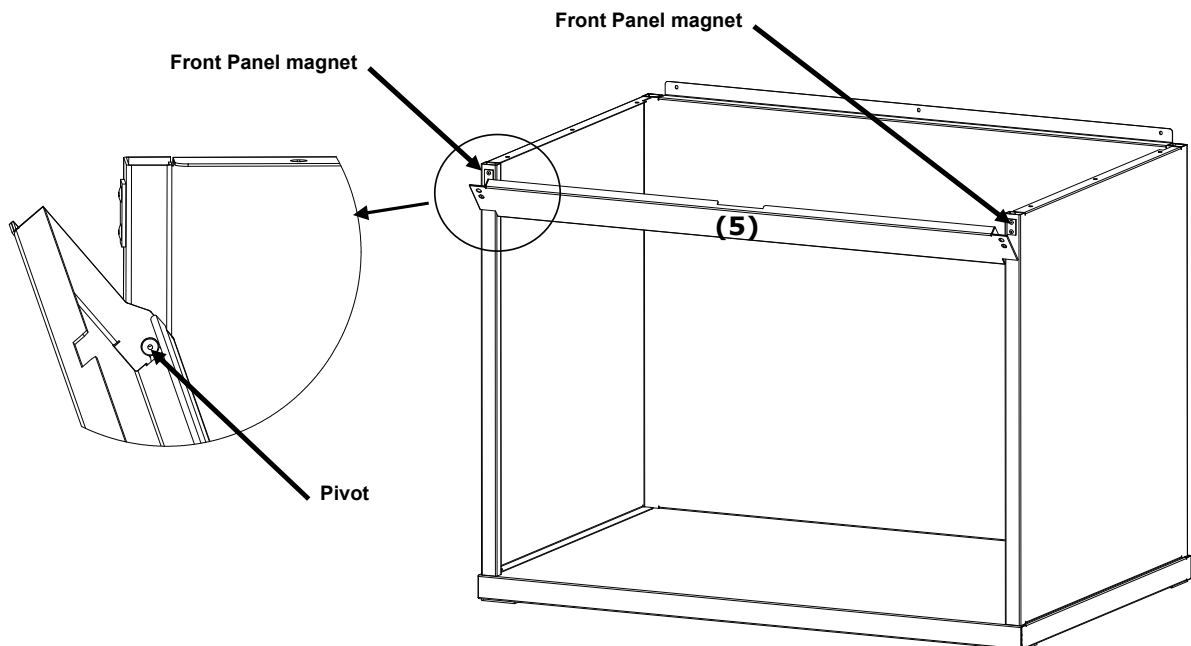

Figure 5. Front panel assembly
7. Slide the pivot slots on the front panel (5) onto the pivots located on each of the two side panels.
8. Rotate the front panel upwards toward the unit until the magnets come into contact with the front panel. See Figure 5.